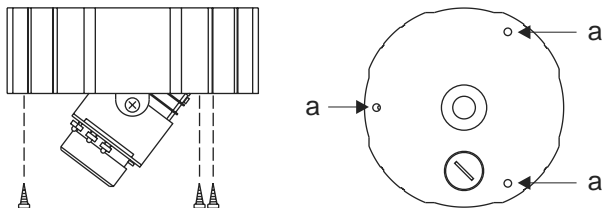

FIG. 1
2. Put the provided screws (M3.0 x 25, wooden screw) through the holes marked as "a", and fix the base in the desired location (FIG.1).